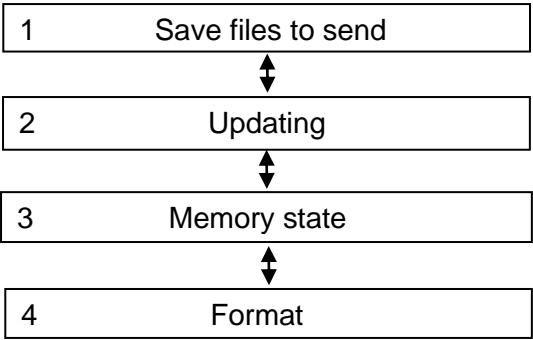

Figure 100 – Menu structure of the "USB drive" mode
8.3.3 When the USB flash drive is connected in the "Recovery" mode, the display of the device shows the menu given in figure 100.